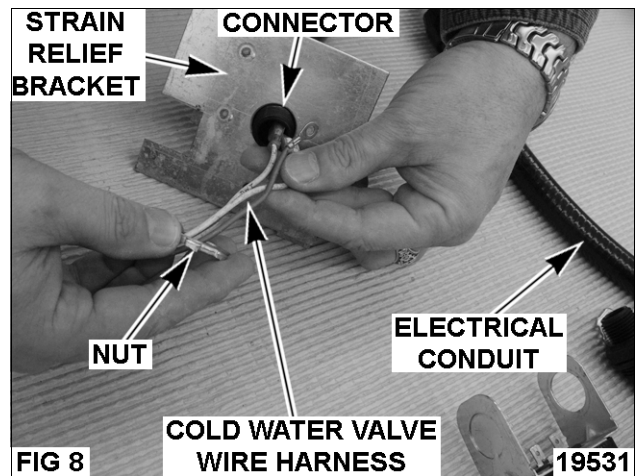

FIG 8 19531
8. Assemble the electrical conduit connector to the strain relief bracket. Attach electrical conduit to connector, run cold water valve wire harness (919862) through conduit per Fig. 8.